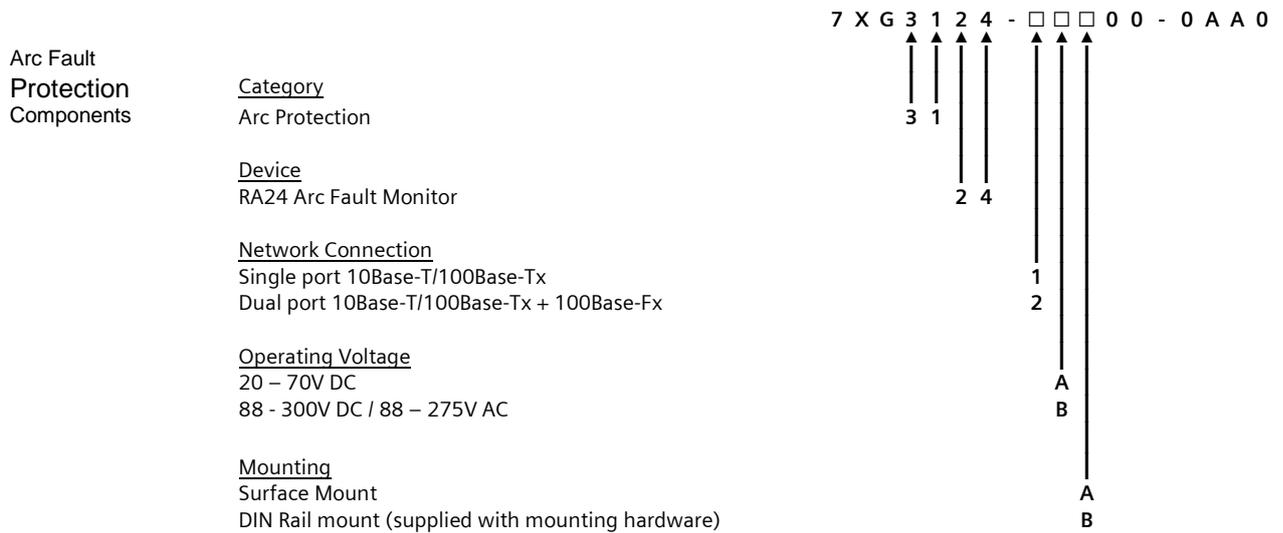

Figure 1: 7XG3124 Ordering Options
- Figure 1: 7XG3124 Ordering Options 4
The RA30A single detector version is depicted in figure 1 showing the location of the detection window and the approximate coverage zone: